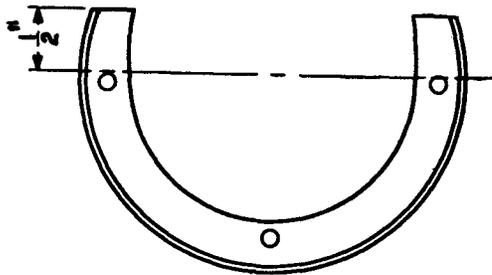

Fig. 5—Modified Dial Adapter
9.01 When a 6-type dial is used as a replacement and where a 59A dial adapter is present, it may be necessary to alter the dial adapter, if not already done, by cutting to the approximate dimensions as shown in Fig. 5. This can be done without removing the adapter from the housing and when the adapter is so altered it can be used interchangeably with 4-, 5- and 6-type dials.